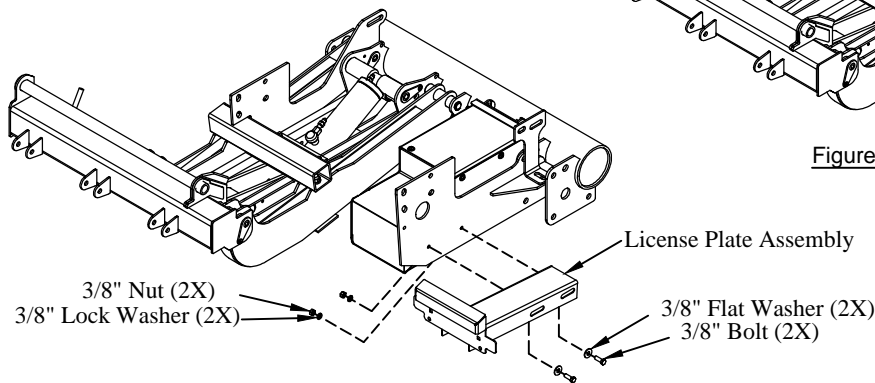

Figure 9: License plate assembly position.
4. **Install** (1) frame spacer per side in the existing holes in the frame (Figure 9).
8. **Install** (4) M12 x 110mm bolts, (8) flat washers, (4) lock washers, and (4) nuts per side in the existing holes near the front of the lift (rear of truck). Do Not tighten at this time.
10. **Attach** the license plate assembly to the bracket plates using the supplied 3/8" bolts, washers, and nuts (Figure 9).